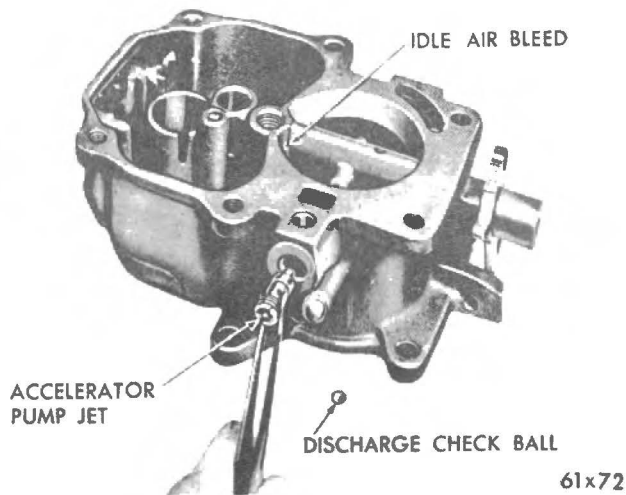

Fig. 7 - Removing or Installing Accelerator Pump Jet.
Tool T109-59T, remove the accelerator pump jet, as shown in (Fig. 7).
(4) Install the accelerator pump jet, as in Fig. 7. Tighten securely using Tool T109-59T. Install a new plug and drive tightly in place.